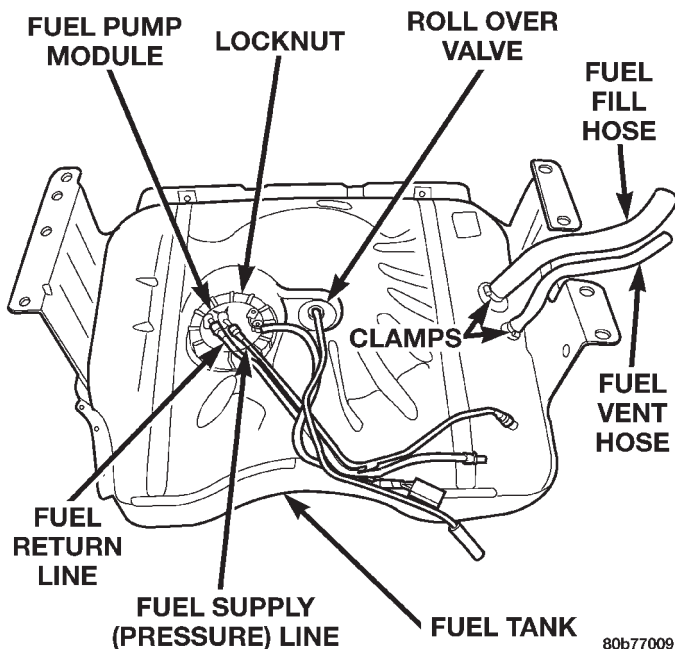
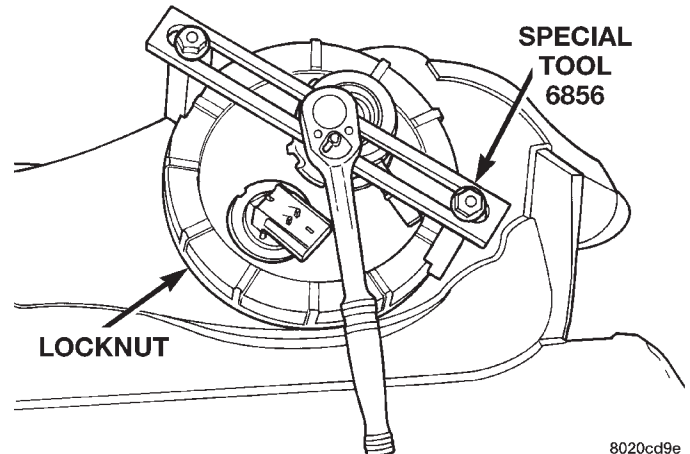
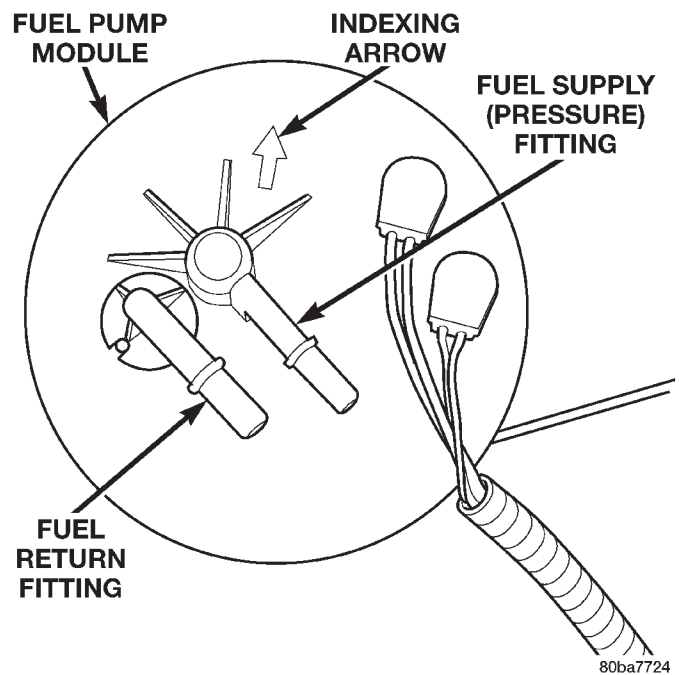

Fig. 26 Top View of Fuel Tank and Fuel Pump Module
Fig. 27 Locknut Removal/Installation—TYPICAL
Fig. 28 Fuel Pump Module Indexing Arrow
- (1) Perform Fuel System Pressure Release Procedure.
- (2) Drain fuel tank and remove tank. Refer to Fuel Tank Removal/Installation.
- (3) Thoroughly wash and clean area around pump module to prevent contaminants from entering tank.
- (4) Disconnect fuel return and pressure lines from fuel pump module fittings (Fig. 26). Refer to Quick-Connect Fittings for procedures.
- (5) The plastic fuel pump module locknut is threaded onto fuel tank (Fig. 26). Install Special Tool 6856 to fuel pump module locknut and remove locknut (Fig. 27). The fuel pump module will spring up slightly after locknut is removed.
- (6) Remove module from fuel tank.
- (3) Apply clean water to locknut threads.
- (4) Position locknut over top of fuel pump module.
- (5) Rotate module until indexing arrow at top of module (Fig. 28) is pointed toward rear of vehicle. Align arrow to tick mark on top of fuel tank. **This step must be done to prevent float/float rod assembly from contacting sides of fuel tank.**
- (6) Install Special Tool 6856 to locknut.
- (7) Tighten locknut to 74 N·m (55 ft. lbs.) torque.
- (8) Connect fuel return and pressure lines to fuel pump module fittings (Fig. 26). Refer to Quick-Connect Fittings.
- (9) Install fuel tank. Refer to Fuel Tank Installation.